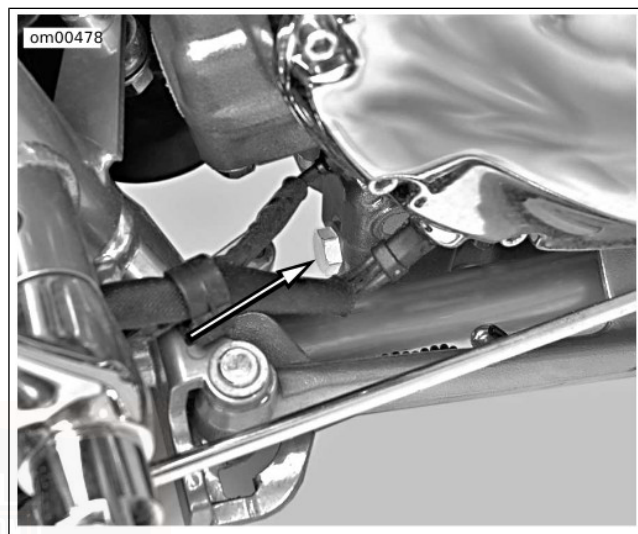

Figure 31. Oil Drain Plug: VRSC Model
1. See Figure 31. Loosen the oil drain plug and completely drain the oil.
6. See Figure 31. Install the engine oil drain plug. Tighten the drain plug to 30–40 N·m (22–30 ft-lbs).